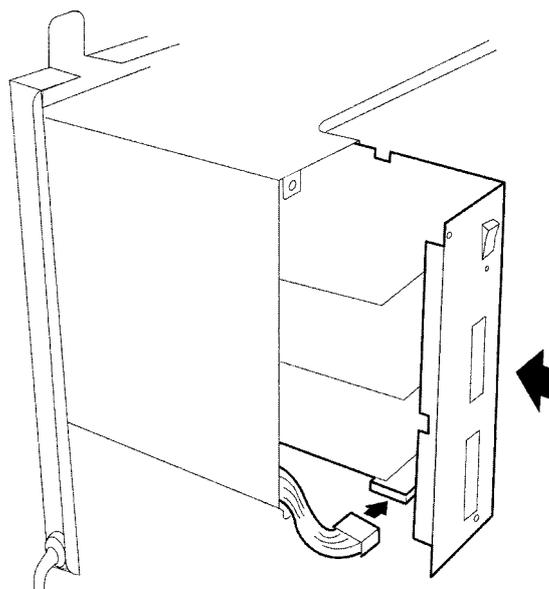

Figure 4-41 Installing the KSU in the PSU
4. Refer to *Figure 4-41 Installing the KSU in the PSU*. Install the P64-U13 PSU into the left space of the KSU, connect white cable attached to MBD-U13 Unit, and attach PSU to the KSU using the two screws removed in Step 1.
5. Connect the power cord to AC IN connector as per *Figure 4-41 Installing the KSU in the PSU*.